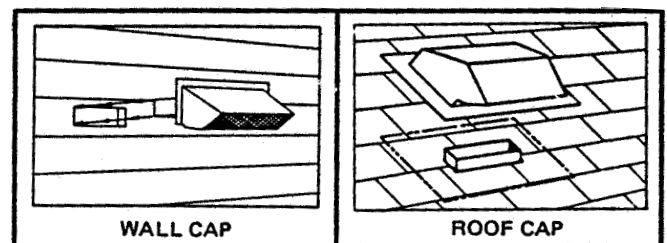

Fig. 11
- a. To install a wall cap discharge (Fig. 11): Use a saber saw or keyhole saw to cut a hole slightly larger than duct size used so that cap will line up easily with duct. Install casing strips on the outside of a wood house if required. Run the required amount of ductwork back to the location of the hood and trim the last section of ductwork so cap will be flush with outside wall. Fasten wall cap to ductwork and nail or screw cap to wall. Caulk all around flange with high quality caulking compound.
Using roof cement, seal all nail heads and shingles which were cut or fitted. Do not scale bottom edge of flange. (Fig. 11)